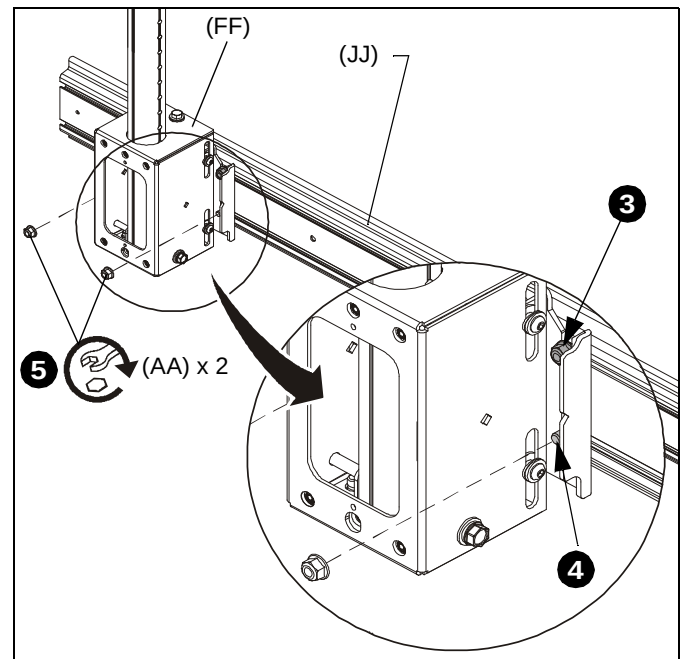

Figure 6
- Partially fasten one 5/16" lock nut (AA) to each stud on **upper** T-slot studs.
- Slide top T-slot studs (EE) with attached lock nuts (AA) down into top openings on array heads (FF). (See Figure 6)
- Slide studs on lower T-slot studs (EE) into lower slots on array head (FF) while bringing mounting rail against array head.
- Tighten array head to mounting rail by tightening lock nuts on upper T-slot studs and adding two 5/16" lock nuts (AA) to lower T-slot studs. (See Figure 6)